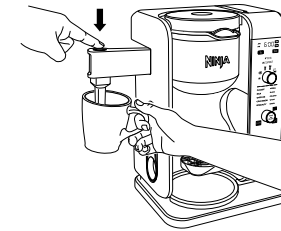

Fig. 20
- 4 Press and hold the frothing button for 30 to 45 seconds (Fig. 20).